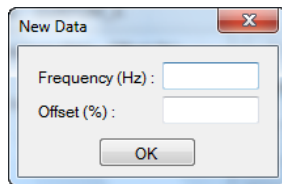

Figure 2-57 New Data dialog
- 6 Select **Insert** to add a new frequency point. Insert the desired frequency point and offset in the New Data dialog as shown in Figure 2-57.